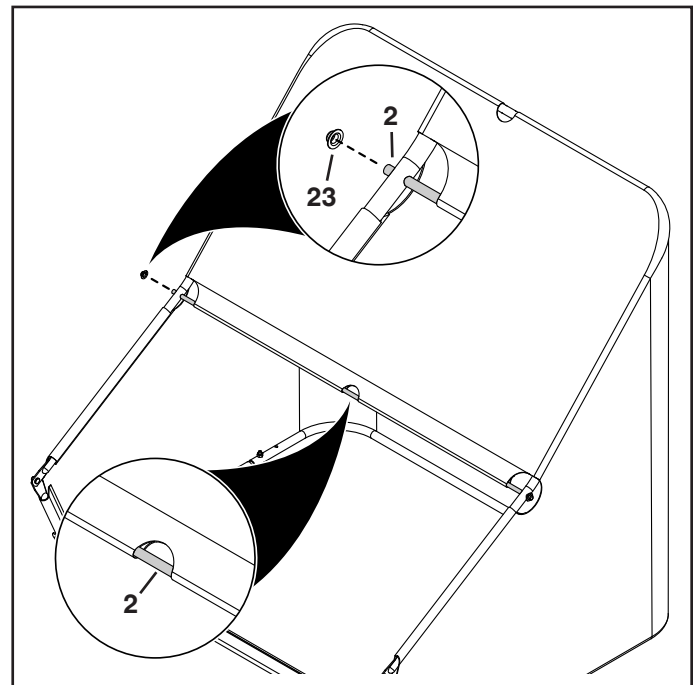

FIGURE 12
19. Using a hammer, tap a palnut (23) onto one end of the pivot rod (2). See figure 12.
20. Slide the end of the pivot rod that doesn't have a palnut on it through the holes in the side of the upper hopper tubes and through the middle flap of the bag. See figure 12.
21. Using a hammer, tap a palnut (23) onto the other end of the pivot rod (2). See figure 12.